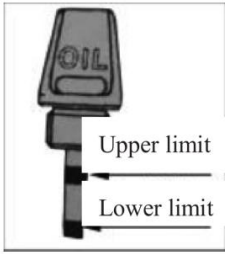

Figure 11
a.Stand the machine on the ground,screw off the oil level gauge and check the oil level:the oil level should reach the upper limit mark on the oil level gauge.(see Figure 11)